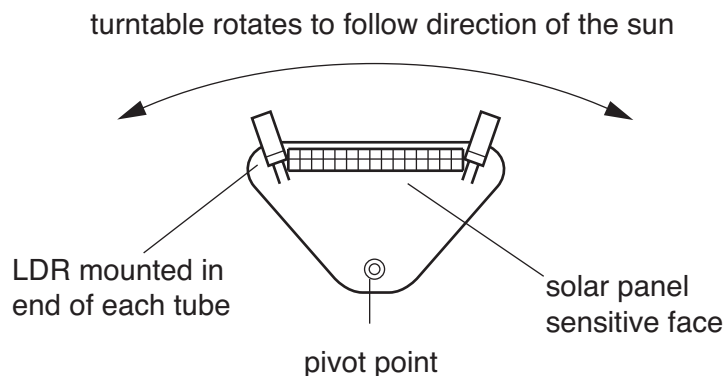

Fig. 5
- (b) The solar panel is mounted on a turntable that follows the path of the sun. Two LDRs, mounted in black tubes, are positioned either side of the solar panel, as shown in Fig. 5 .